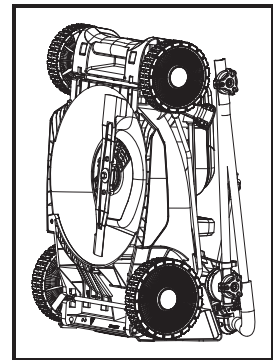

Fig. 25
- Store the lawn mower flat or upright (Fig. 25).